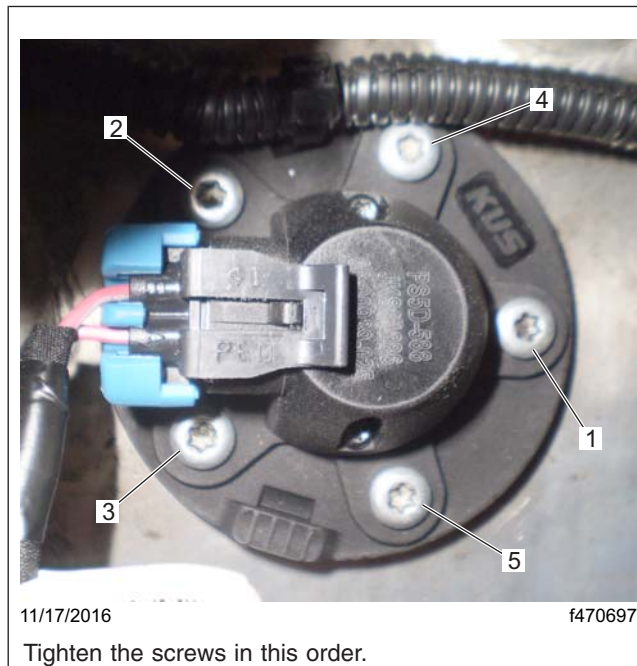

Fig. 8, Tightening Sequence
10. Using the tightening sequence shown in Fig. 8, and even progression to distribute the torque evenly around the fuel-level sending unit, sequentially tighten the screws 15 to 25 lbf·in (160 to 212 N·cm).